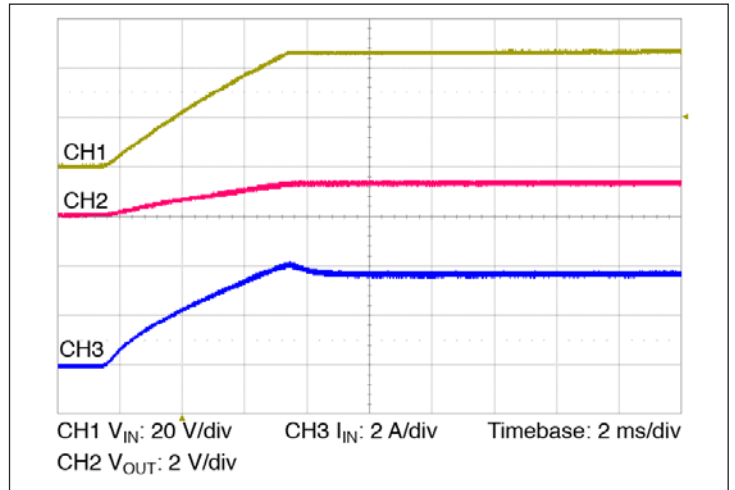

Figure 10 – Start up from application of  $V_{IN}$ ; VC pre-applied  $C_{OUT} = 64400 \mu F$
- Normal operation (VC applied prior to VIN): In this case the controller is active prior to ramping the input. When the input voltage is applied, the VTM module output voltage will track the input (See Figure 10). The inrush current is determined by the input voltage rate of rise and output capacitance. If the VC voltage is removed prior to the input reaching 26 V, the VTM may shut down.